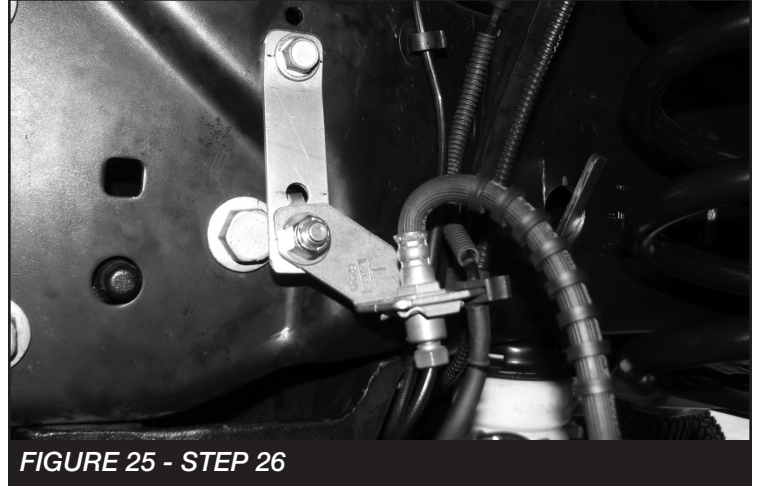

FIGURE 25 - STEP 26
26. **(DRIVER SIDE)** Install FT30659 (Brake line bracket) to the factory brake line tab using the supplied 3/8" hardware. Next, install the bracket to the frame using the factory hardware. Torque hardware to 52 ft-lbs. **SEE FIGURE 25**